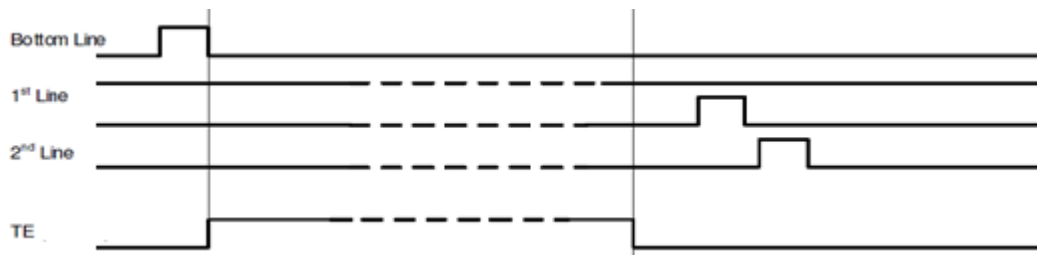

Fig 20-13 MCU TE mode frame synchronization
- tvdl: The LCD display is updated from the GRAM (except invisible lines, see Fig 20-13).